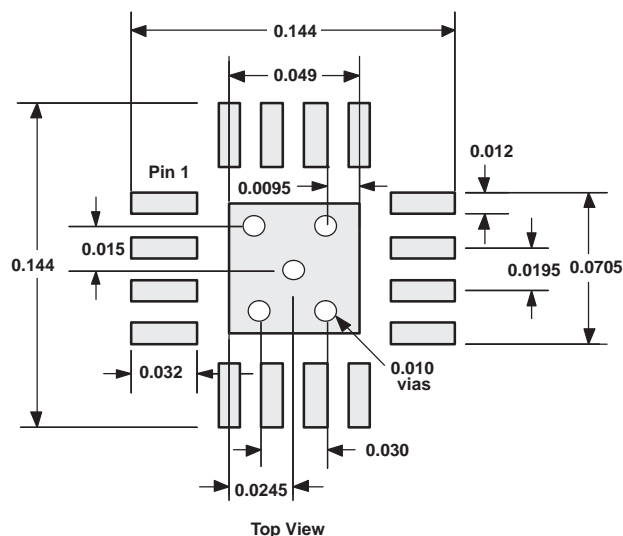

Figure 61. QFN Etch and Via Pattern
9. The THS4508 recommended printed circuit board (PCB) footprint is shown in Figure 61.